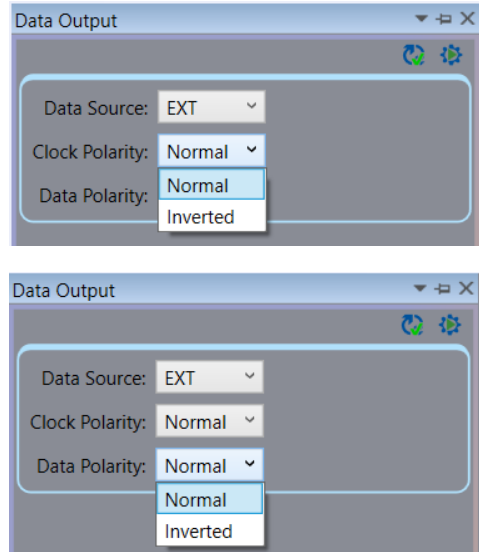

Figure 144: Clock Polarity and Data Polarity Drop Down Menus
- Clock Polarity – Valid selections are Normal and Inverted, as shown in Figure 144.
- Data Polarity –Valid selections are Normal and Inverted, as shown in Figure 144; useful when the data stream starts out inverted, in effect, un-inverts the data